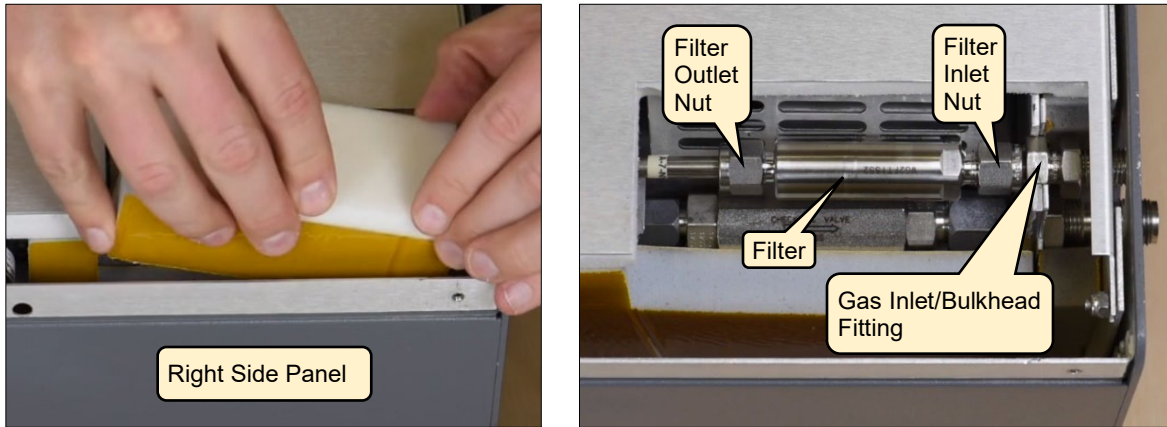

Figure 7: Foam Filter Cover Removal
6. Using the 9/16" and 11/16" wrenches, disconnect the filter inlet Swagelok nut, then remove the bulkhead fitting through the back panel (Figure 7).